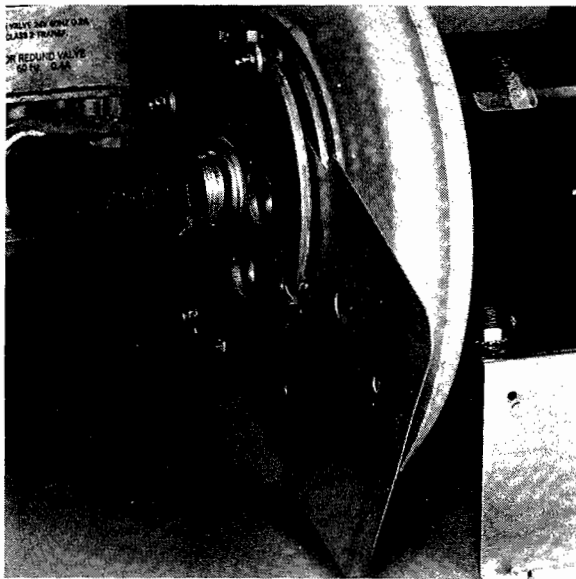

FIGURE 17
3. Pull gas/air orifice plate out. (Fig. 17)